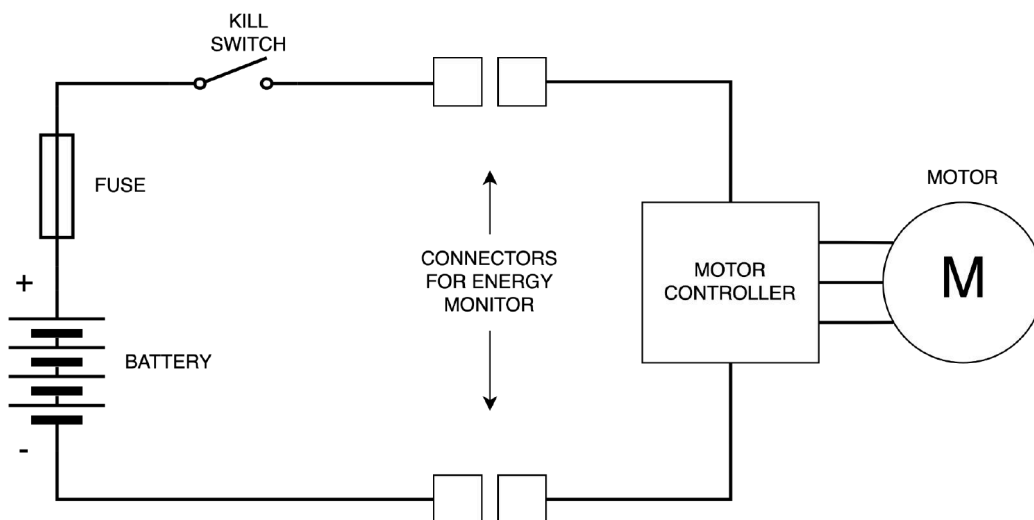

Figure 6: Example wiring diagram for the Open Class (not showing signal wiring).
- CR.3.2 The location of the fuse, kill switch and energy monitor connectors shall be as shown in Figure 6.